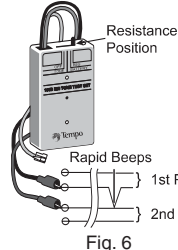

Fig. 6
- Proceed by moving the initial test lead to each conductor in turn and testing it against the remaining conductors as shown in Figure 6.